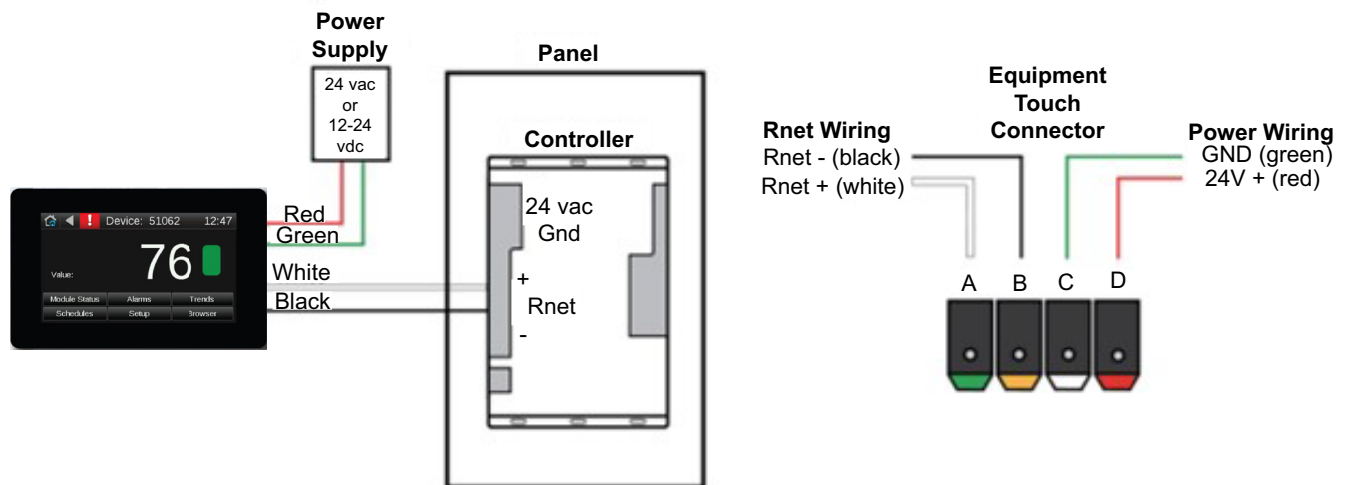

Fig. 6 — Wiring Equipment Touch Interface to TruVu™ Controller
6. Connect wiring to the Equipment Touch controller as shown in Fig. 6.